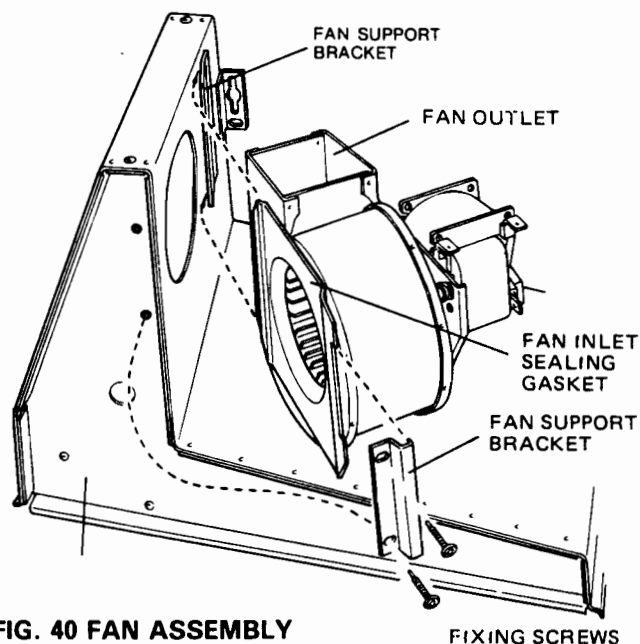

FIG. 40 FAN ASSEMBLY
30. FAN (see Fig. 40)
- Fit new fan into position ensure the fan is located correctly (see Fig. 40) ensuring that a good seal is made between the fan outlet and the flue. Renew gasket if damaged. Reassemble in reverse order and check that the electrical wiring and connections are not damaged.